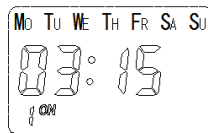

Figure9
4.2.3.2 Set 1ON (first group of bell) time: press the "MD" key to enter first bell time set, respectively, according to "◀" turn into minutes, hours, weeks mode setting, then set bit flashes, such as Figure9, press the "+" "-" buttons to set Working clock, The days will work on behalf of the week mode of light. After setted, Press "MD" key to enter 2ON (second group of bell) time set.